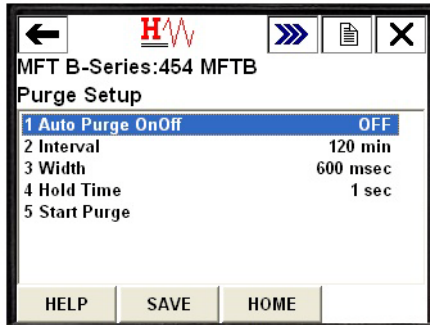

Figure 2-4. Hart Sensor Purge Setup menu
The parameters for setting up the purge sequence can be changed through the HART interface. Device-specific commands 137, 138, and 139 are used for the B-Series purge cleaning through the HART Master. The B-Series Field Device Specification describes the format of these commands. For HART Masters using the B-Series Device Descriptor (DD) files, the Purge Setup menu and purge method are available, as shown in Figure 2-4. Refer to the *HART Interface Guide* for information about the B-Series DD menu organization.